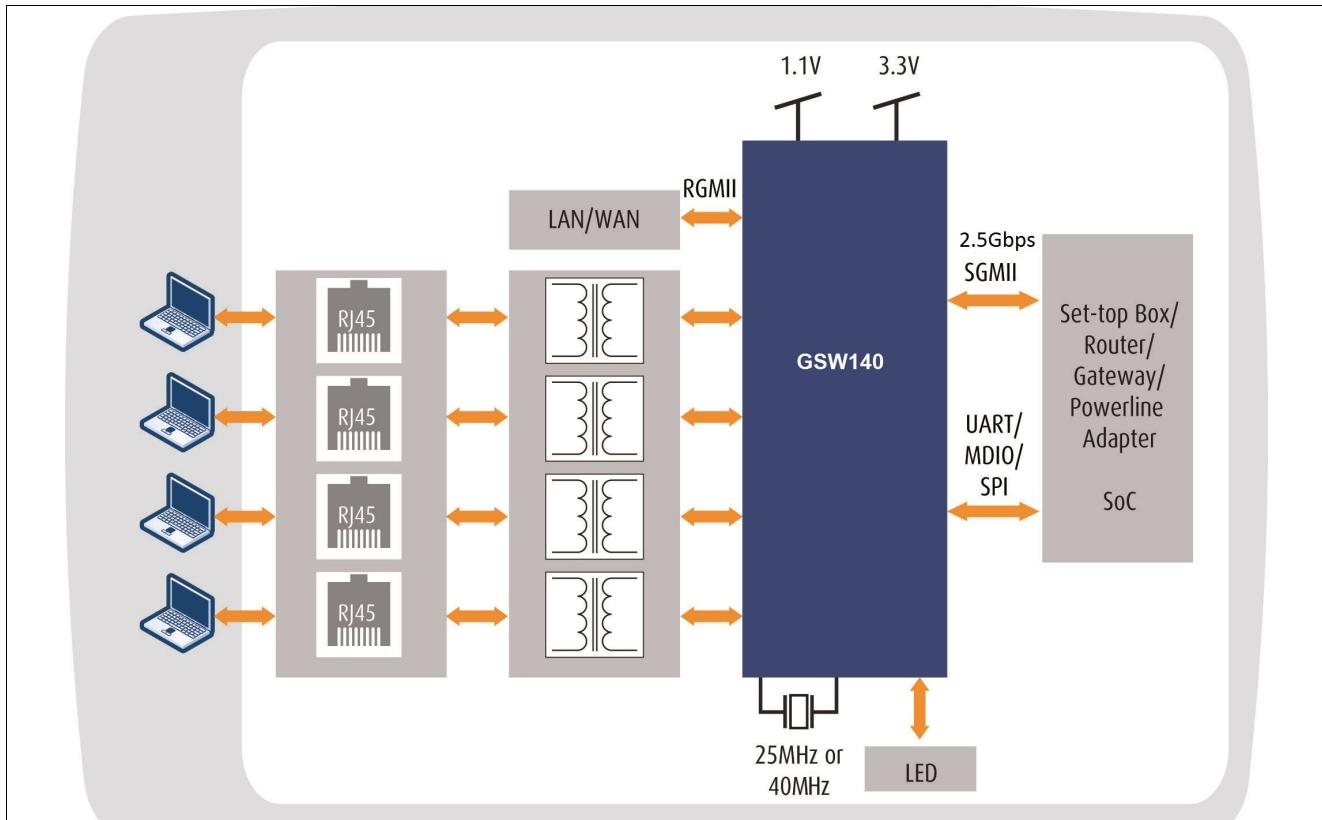

Figure 3 Home Gateway
**Figure 3** shows an application of home gateway. An external SoC can manage the switch via management interface (eg. UART, SPI or MDIO interface). The 2.5 Gbps SGMII interface allows the high throughput rate between Ethernet LAN ports and SoC. In addition, another LAN/WAN type interface can be build (for example MoCA, Wi-Fi, Ethernet etc) and connected to the router/gateway SoC via a RGMII interface.